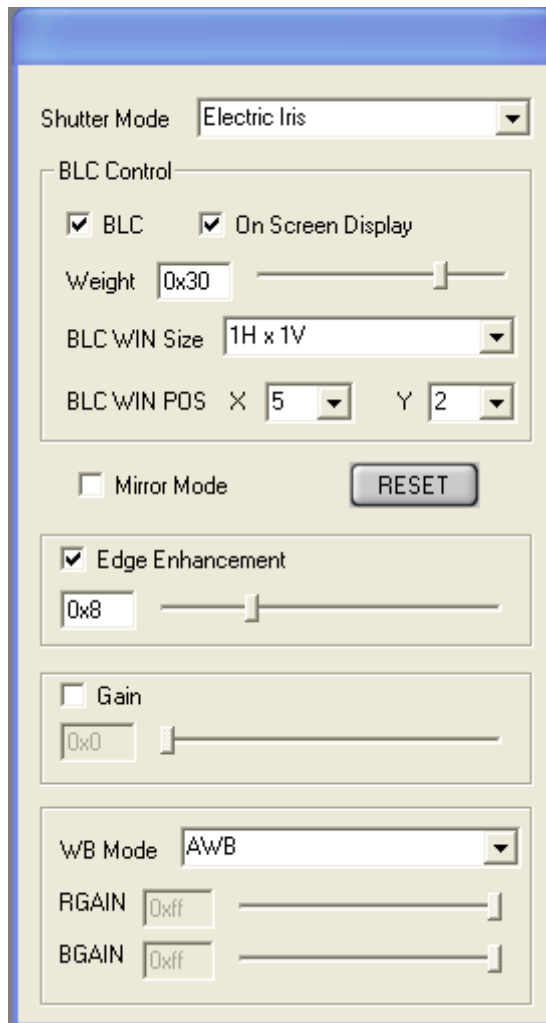

Figure 11. Camera Feature Control
**"Camera Control Panel"** will display the camera control toolbox, which is the same as the camera control toolbox in the TWAIN driver. See figure 11.